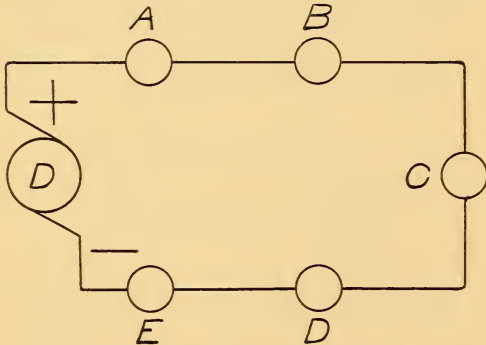

FIG. 23. SERIES CIRCUIT OF FIVE LAMPS.
In a similar manner, the circuit of five series-connected lamps (A), (B), (C), (D) and (E), shown in Fig. 23, may have any of these lamps replaced by any number of multiple-connected lamps as, for example, by five multiple-connected groups of five lamps each, and these groups afterwards connected in series to the dynamo (D), as shown in Fig. 21. This would give rise to a series of mul-